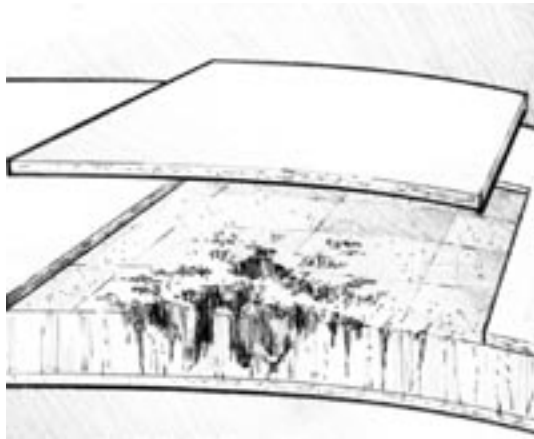

Figure 5-5 Cut through the skin only, outside the area of delamination. Carefully pull the skin away from the core material.
2. Remove the skin (*Figure 5-5*). The skin should separate easily in areas where the core is damaged or wet. In areas where the skin is well bonded to the core, use a chisel or thin blade between the skin and core to pull the skin away from the core material. Be careful not to bend the skin too much or gouge the core. Applying heat to the joint with a heat gun will also help to soften the skin/core bond but take care not to overheat the skin.